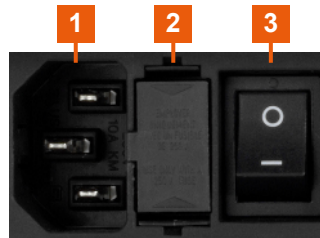

Figure 16-2: Power supply
- Set the switch on the power supply to position [0] (3 in Figure 16-2).